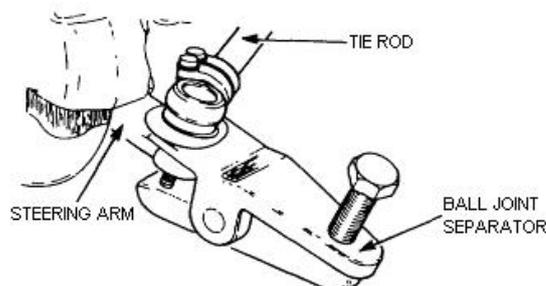

Figure 167 Drop Arm Ball Joint Disconnection
- g. Using ball joint separator (Table 3, Serial 13), disconnect the drag link (Figure 167).